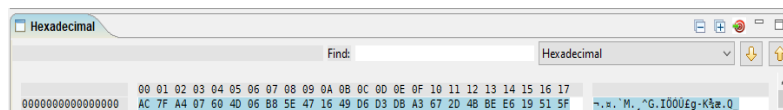

Figure 32: Find Bar for Hexadecimal Search
1. Display the find bar (by activating the menu item “Window” → “Toggle Find Bar” or through the keyboard shortcut Ctrl + “F”) – the find bar is shown on top of the Hexadecimal view as in Figure 32.